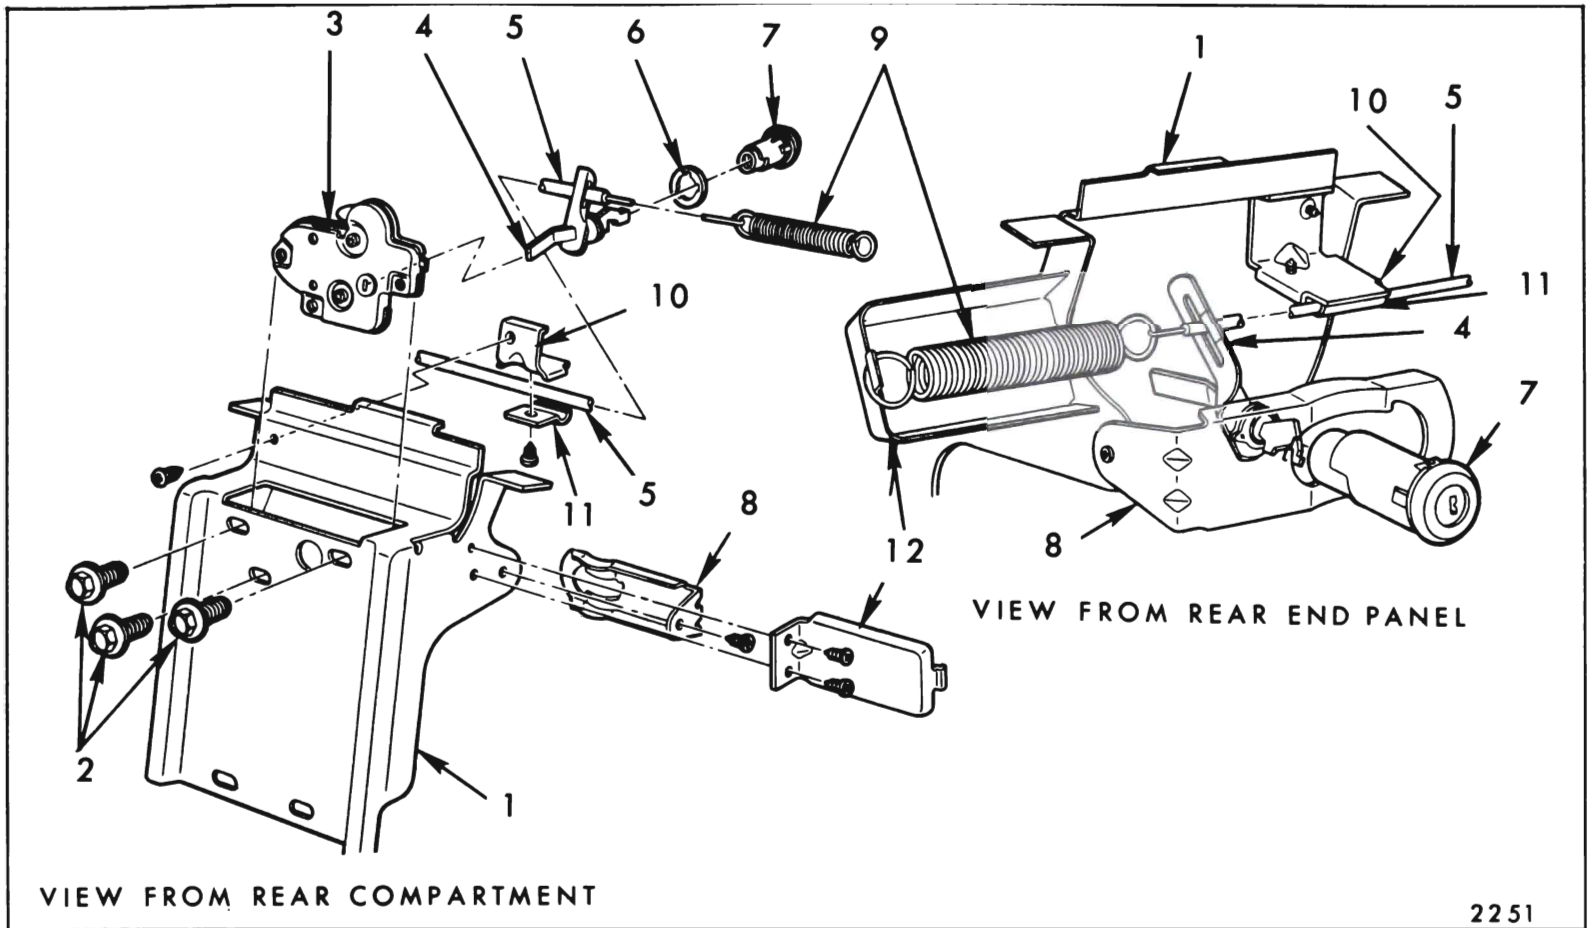

Fig. 9-24—Rear Compartment Lid Manual Release Unit
2. Remove cable support clip attaching screw and move cable toward left side of body to enable disengagement of release cable return spring retainer (See Fig. 9-24).
- Remove screws securing right and left access hole covers to tail gate inner panel and remove covers. (See Fig. 9-24.)